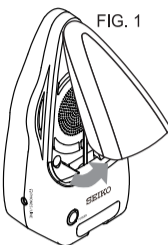

FIG. 1
- Remove the cover from the main unit by holding the bottom of the cover as shown in FIG. 1 and pulling it forward.